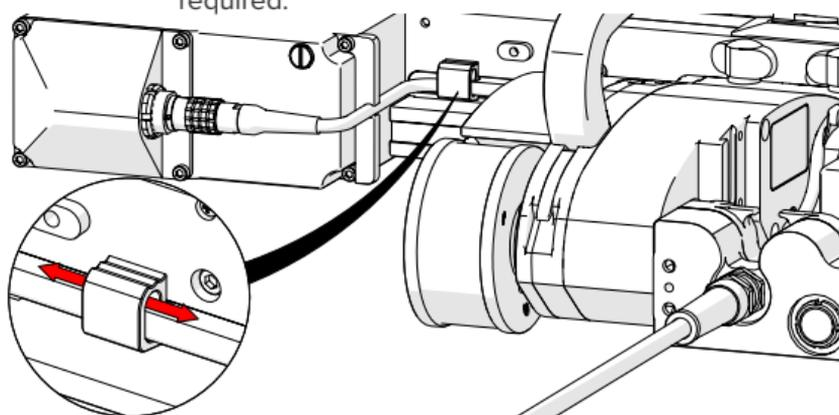

Fig. 35 - Adjustable cable clips
3. Route the cable through the adjustable clips on the raster arm (Fig. 35). These clips slide along the raster arm, allowing the raster arm cable to be positioned as required.